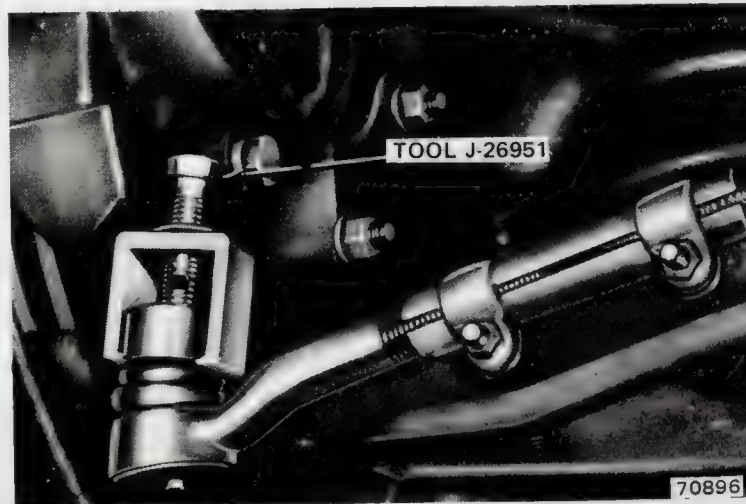

Fig. 2M-48 Disconnecting Tie Rod End
- (1) Raise and support front of car.
- (2) Remove wheel and tire, caliper and rotor. Refer to Chapter 2F.
- (3) Raise and support lower control arm using hydraulic jack.
- (4) Remove cotter pin and retaining nut from tie rod end ball stud.
- (5) Disconnect tie rod end from steering arm using Remover Tool J-26951 (fig. 2M-48).
- (6) Remove bolts attaching steering arm to steering knuckle and remove steering arm.